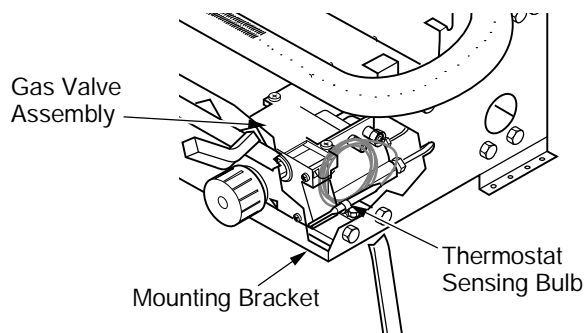

Figure 9 - Location of Gas Valve Assembly and Thermostat Sensing Bulb
1. Remove logs. Locate the gas valve assembly and thermostat sensing bulb (see Figure 9).